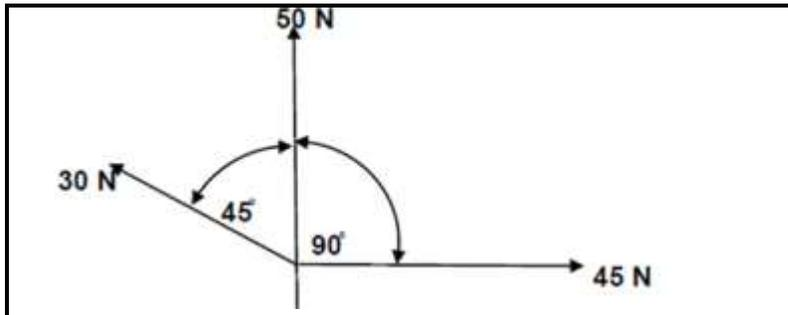

FIGURE 8.1
8.1 FIGURE 8.1 below shows a system of forces.